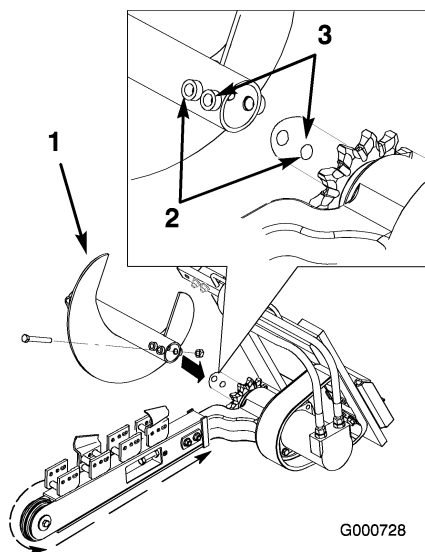

Figure 2
2. Remove the bolt and nut securing the spoils auger to the trencher (Figure 2).
3. Using the bolt and nut you removed previously, connect the spoils auger to the auger shaft. Pair the hole farthest from the auger blade, in the end of the auger with 2 holes, with the inner hole on the shaft (Figure 2).